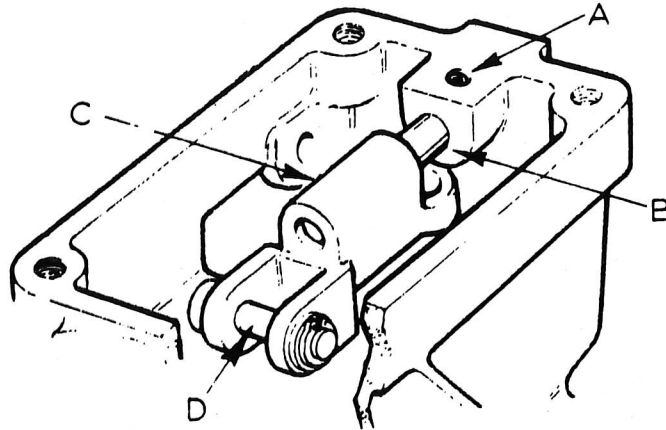

Fig.37. SELECTOR LINK AND PIN
7. Insert operating pin (A, Fig. 37) through the fork end holes of selector link (B, Fig. 37), securing with washer and circlip.
8. Hold selector link on the inside of the output shaft housing in its relative position. Insert selector link pin (C, Fig. 37) into the link from the exterior of the housing, securing the link pin to the housing with its roll pin (D, Fig. 37).